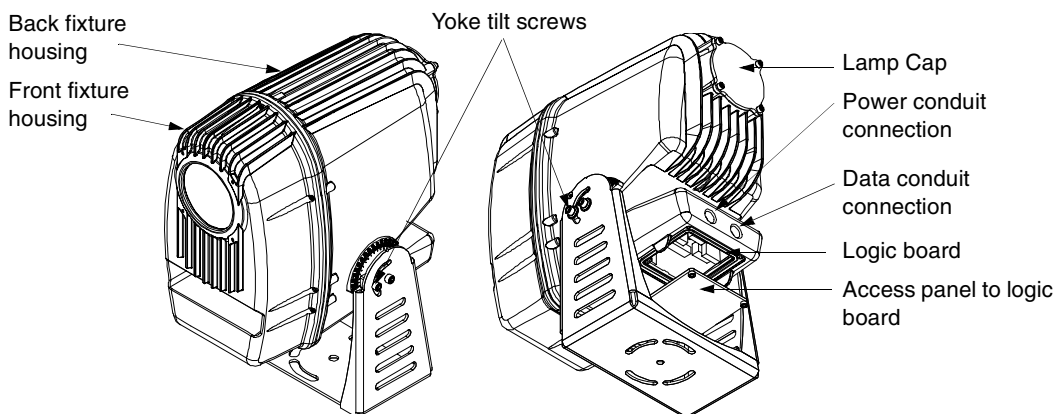

Figure 1 EC-2 Fixture Components
- Data and power conduit connect at the back of the fixture, (see Figure 1 on page 8).